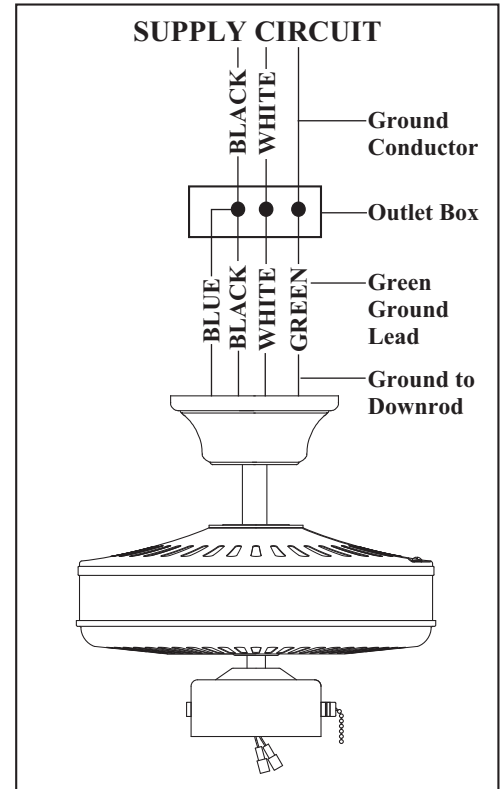

Figure 12
1. Connect the ground conductor of the 120V supply (this may be a bare wire or a wire with green colored insulation) to the green ground lead(s) of the fan. (Figure 12) When using standard ceiling mounting, there are two green grounding leads; one from the ceiling mounting bracket and one from the ball/downrod assembly. When using “Close-to-Ceiling” mounting, there is only one green ground lead from the ceiling mounting bracket since the ball/downrod assembly is not used.
2. Connect the fan motor white wire to the supply white (neutral) wire using a wire nut. (Figure 12)
3. Connect the fan motor black wire to the supply black (hot) wire using a wire nut. (Figure 12)